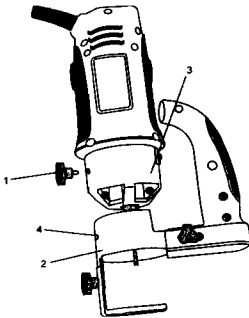

Fig. 10
1. Remove accessory locking knob (1) from the base of the cutter motor housing (see Fig. 10). Slide precision handle mounting bracket (2) onto the bottom of motor housing (3) until the mounting hole (4) lines up with the hole in the motor housing.